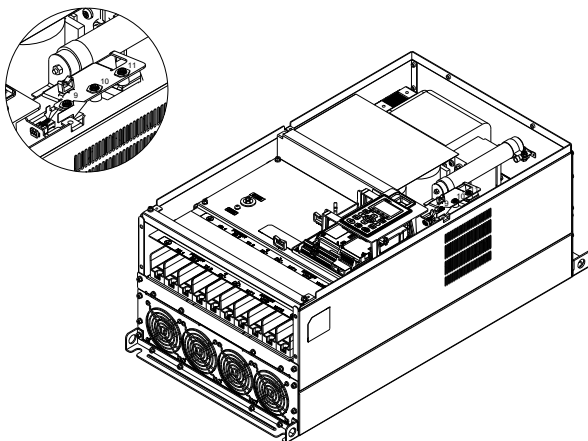
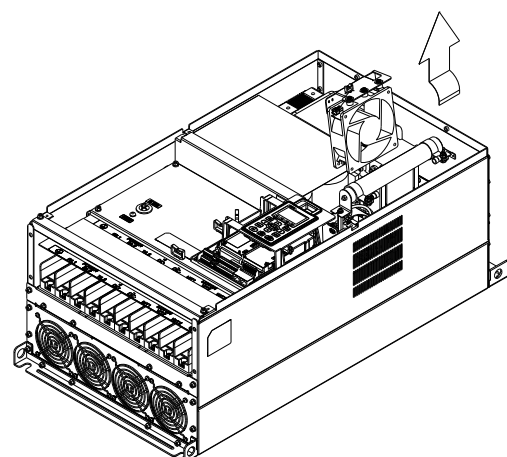

Figure 3
Figure 4
3. Loosen the screws and remove the fan. (figure 3 and figure 4)